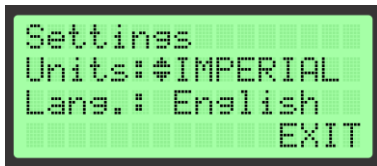

Figure 101 Selecting Measuring Units System
Using Up (▲) and Down (▼) keys, the user can navigate through this submenu and move the cursor to point at the displayed item which could be edited. By pressing Enter (E) the user will enter the mode for adjusting the selected parameter. For Measuring Units System, the user can choose between IMPERIAL or METRIC (See Figure 101). The MSC-1015 will display the measuring units depending on this selection. This setting influences the next function of the device: Q[pC], IEPE and FLOW.